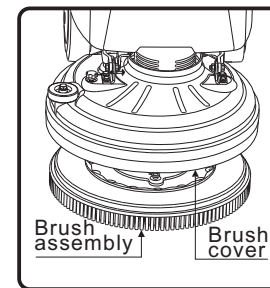

fig.5
- 4.Put the battery socket to the machine socket(fig.5).
1. Lift up the brush limit plate and push the brushes under the brush cover to keep proper distance between them. Then, move on the brush to make the brush holder under the center of brush cover. After that, put down the brush on the floor vertically(fig.5).